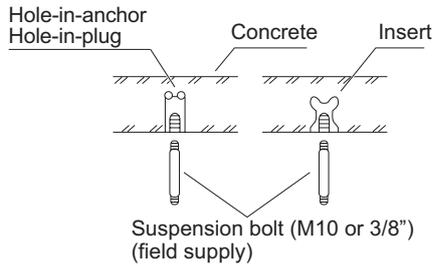

Fig. 1-35
- Insert suspension bolts as shown in Fig. 1-35
- (2) Screw in the suspension bolts allowing them to protrude from the ceiling as shown in Fig. 1-35.